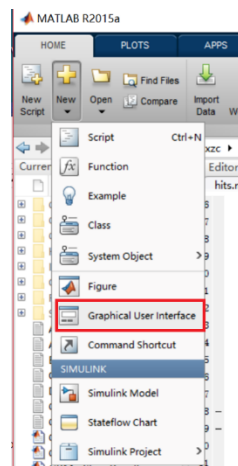

Figure 3-2 Open the *.fig file from graphic user interface---1
(2) The users can also start from the graphic user interface by clicking in MATLAB HOME view or input GUIDE in the command window and press “Enter” to open Existing GUI named hist.fig, hist1.fig and hist2.fig. hist.fig is the main file, while the other two are the sub-files. Then users can click the “Run” button . Figure 3-2, 3-3, 3-4, 3-5 show the details.